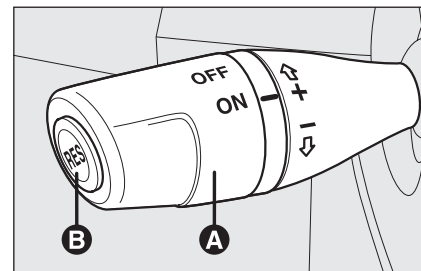

fig. 47
Turn knob **A**-fig. 47 to **ON**.
- ☐ turn knob **A**-fig. 47 to **ON** and press the accelerator pedal to the required speed;
- ☐ press **RES B-fig. 47**.
- ☐ by pressing the accelerator pedal; in this case the system is not really switched off but the request for acceleration takes priority over the system. The cruise control is however active and it will not be necessary to press button **RES B-fig. 47** to resume previous conditions after ending acceleration.